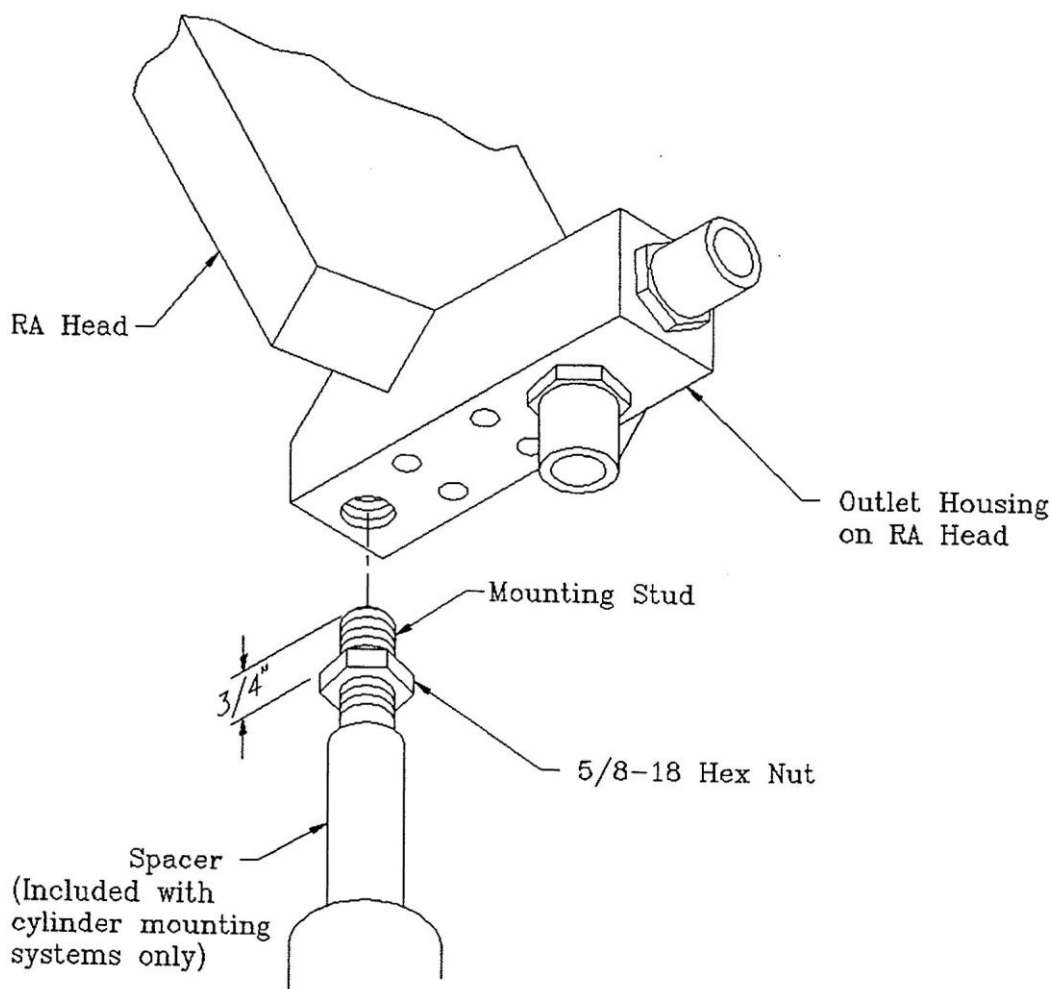
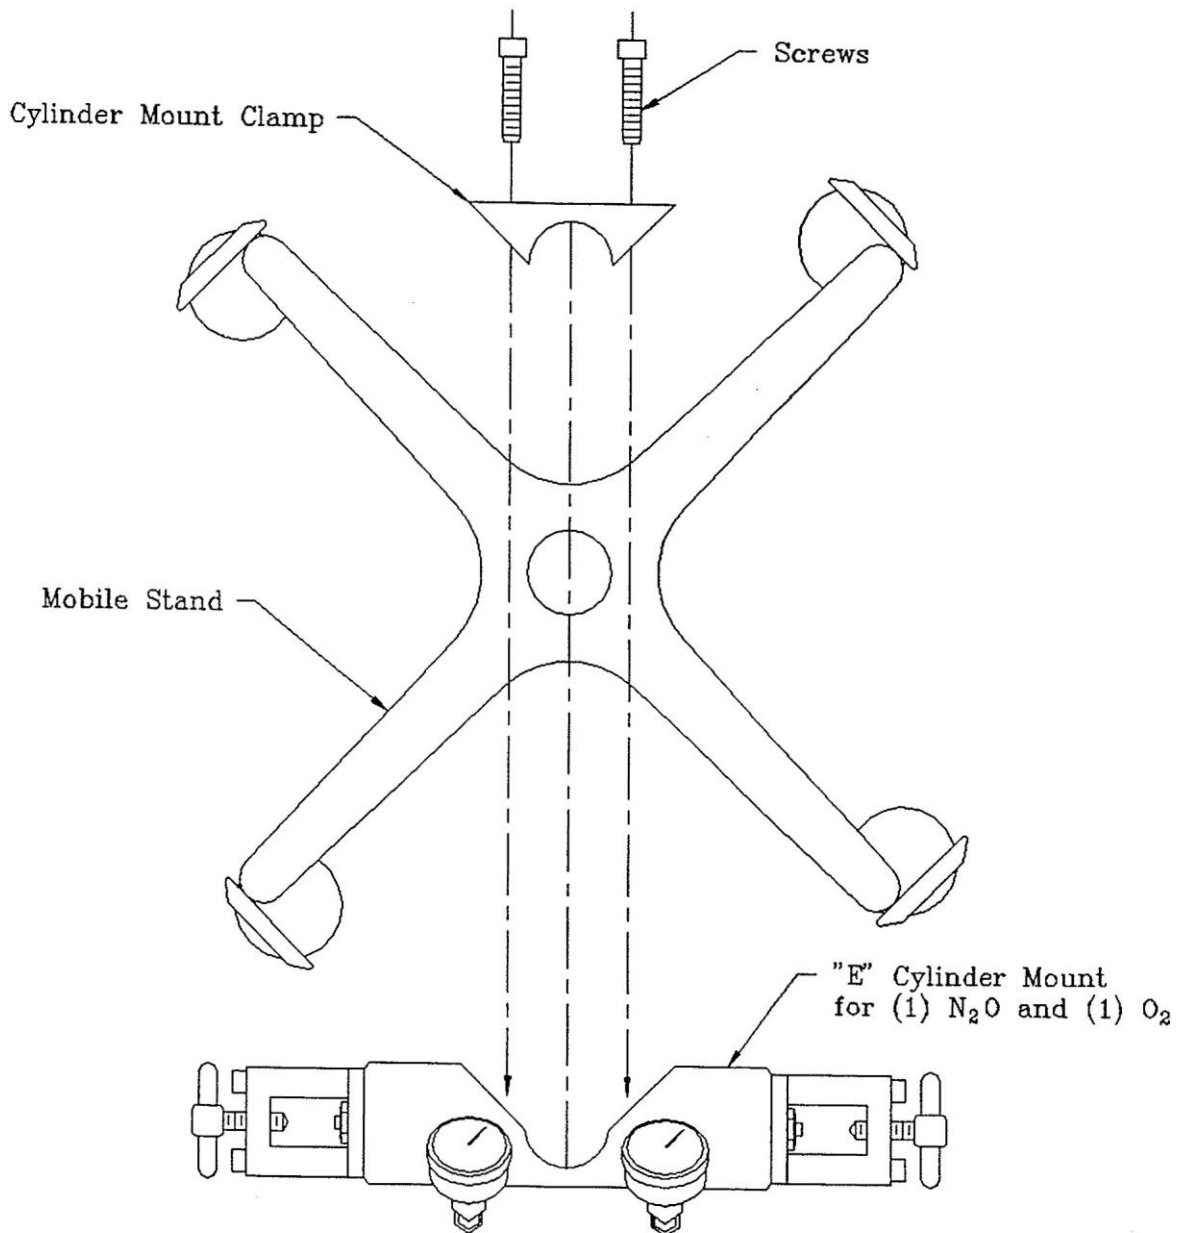
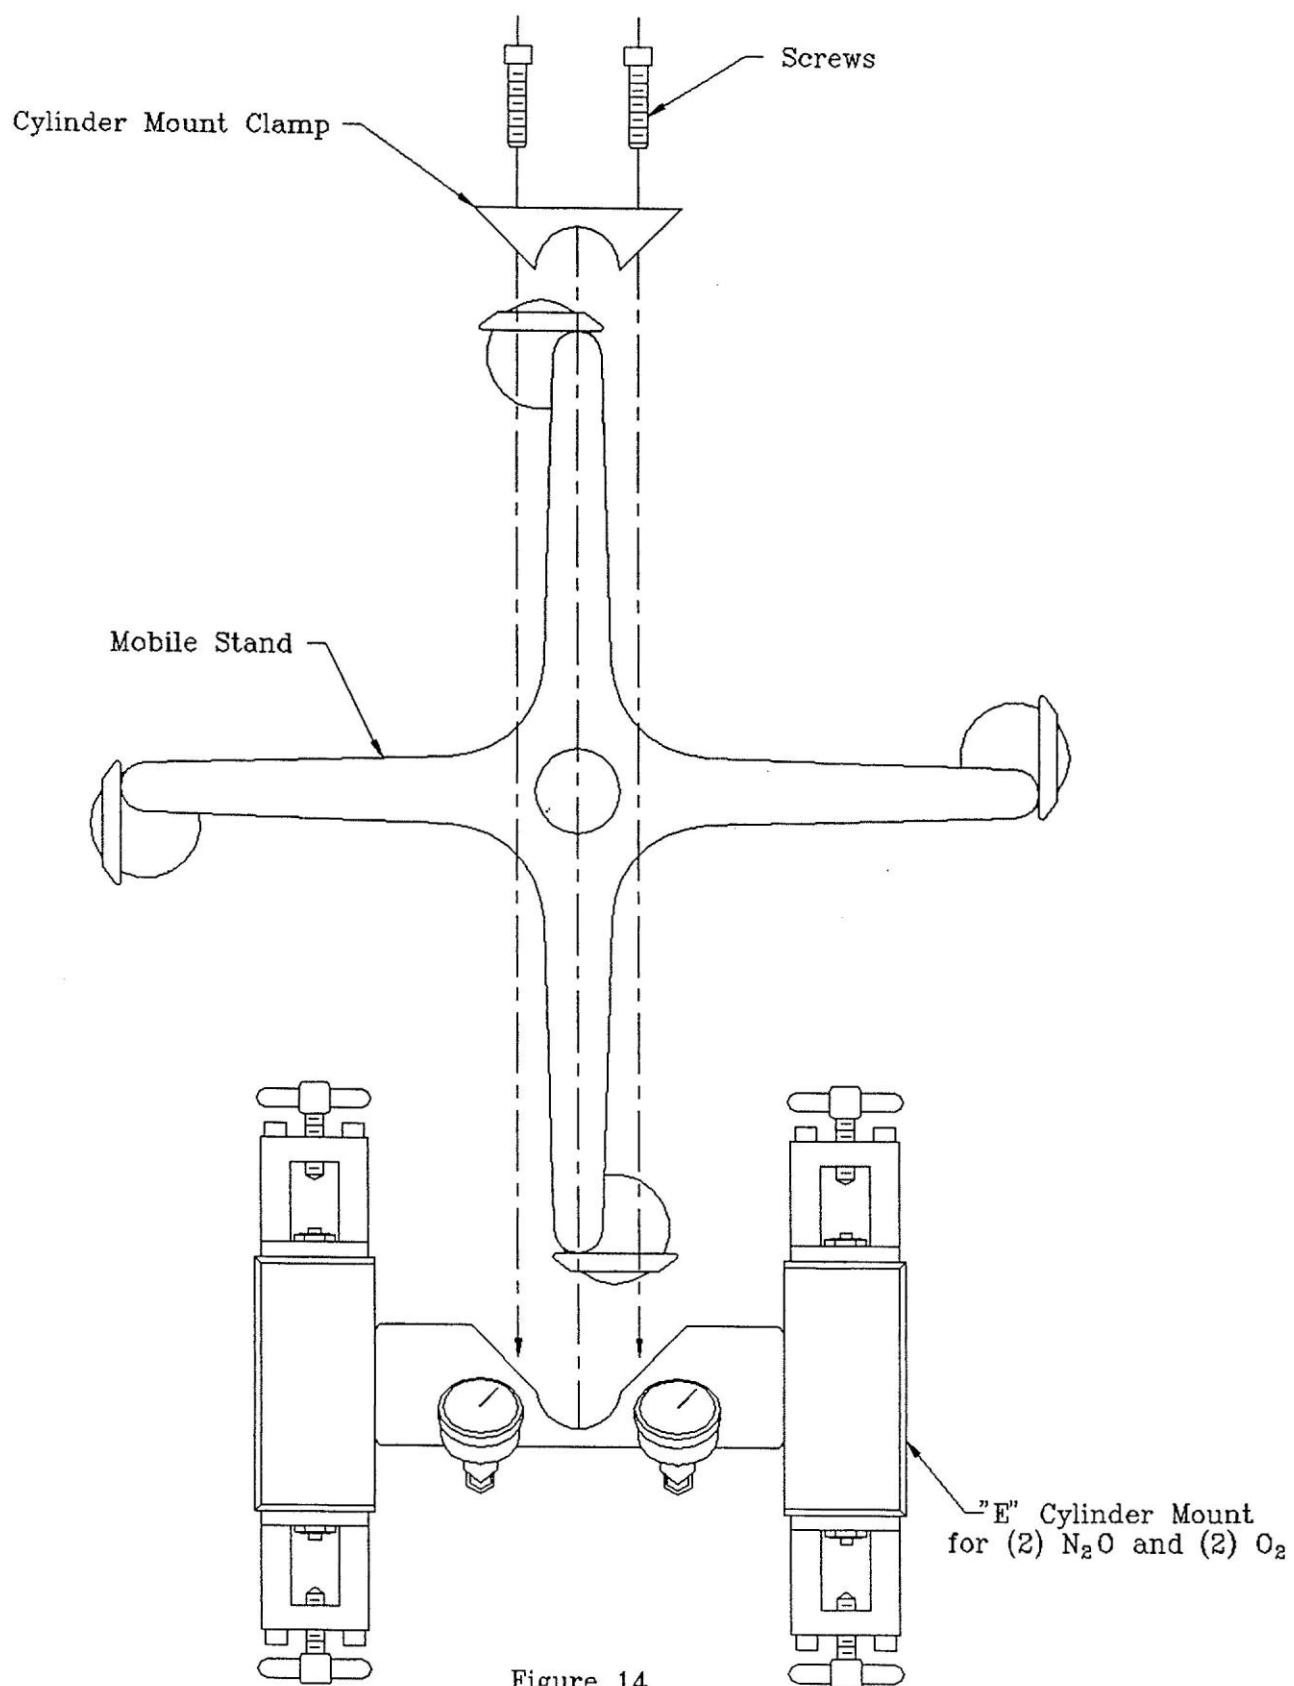

Figure 11
Figure 13
Figure 14
- A. Thread hex nut onto mounting stud until at least $\frac{3}{4}$ " of thread is exposed above but on stud. (See fig 11).
- B. Thread stud into $\frac{5}{8}$ – 18 tapped hole located on bottom of the outlet housing of the analgesia head. Thread in until nut is reached. (See fig 11).
- B. Assemble head to stud as outlined in Figure 11 and set this assembly aside.
- C. Screws and cylinder mount are included in the yoke block assembly. The assembly procedure for either a 2 cylinder or 4 cylinder mount is the same. Refer to Figure 13 for 2 cylinder mount and Figure 14 for 4 cylinder mount. Looking at the mobile stand from the top, orient the legs as shown in Figure 13 or 14.
- E. Looking from the top, locate the oxygen side of the mount as indicated in Figure 13 and Figure 14.
- I. Refer to Figure 11 and mount head/stud unit. Refer to Figures 1 and 2 and Figures 13 and 14 and rotate head/stud assembly such that the oxygen flow tube of the head is on the oxygen side of the cylinder mount assembly.